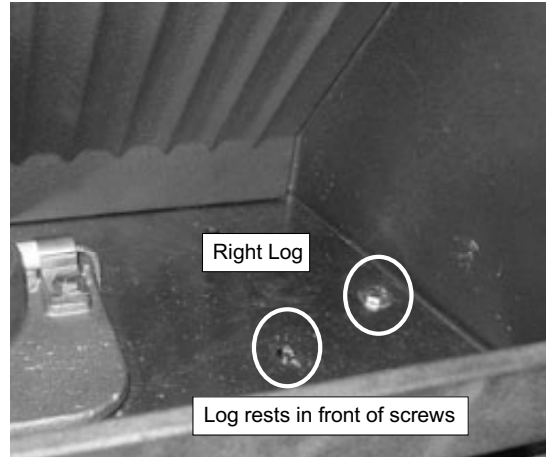

Figure 20.3
2. Place the right log in front of the 2 screw heads in the firebox. **Figures 20.3 & 20.4.**